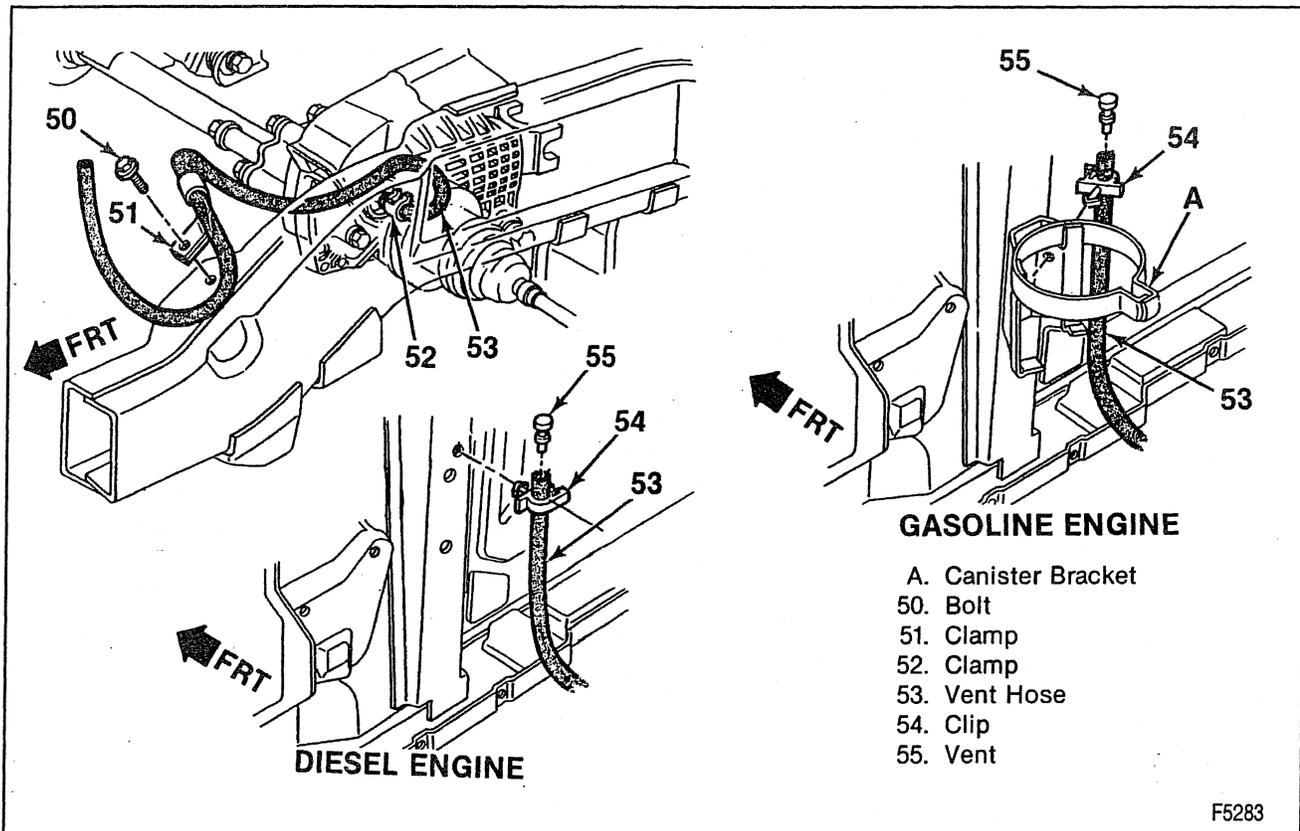

Figure 4—Vent Hose
1. Thermal actuator (12).
**Remove or Disconnect (Figure 4)**
### Install or Connect (Figure 4)